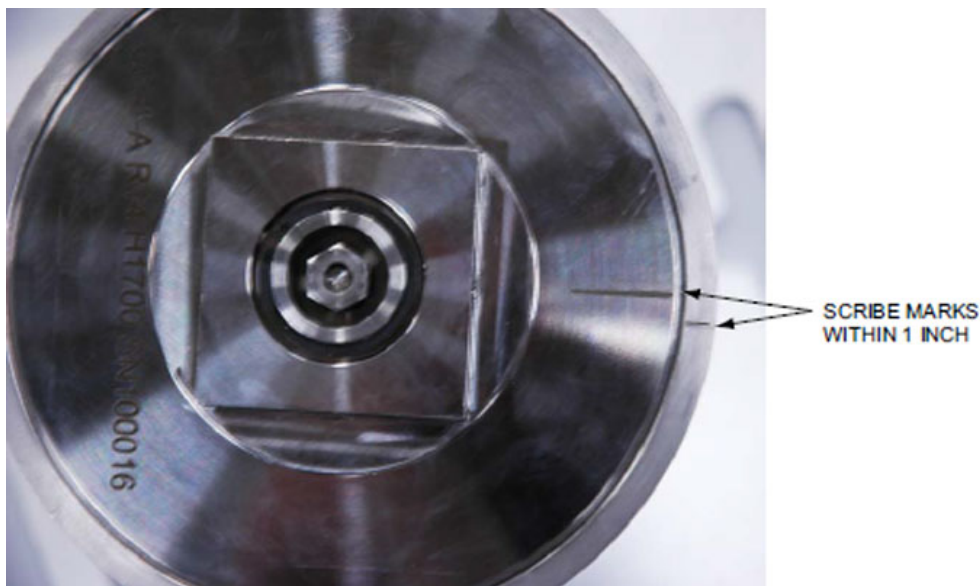

Figure 2-9. Scribe marks.
- Place the second spring assembly into the CV with the closed end up. Remove the CV protector, and install the cone seal on the CV. Hand-tighten and then torque to 110 ± 10 ft-lb ensuring the CV stand does not rotate. Check the scribe mark on cone seal nut and make sure it is within 1 inch (fig. 2-9) of either side of the CV body scribe mark.